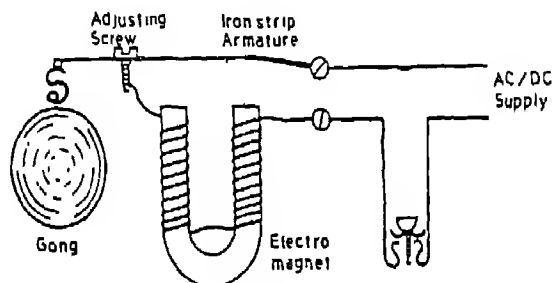

Fig. 15.1 Electric Bell
- fix up iron armature and the gong as shown in Fig 15.1. Insulate perfectly.